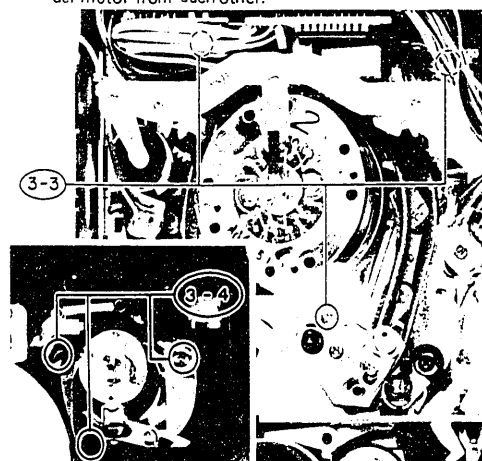

Fig. 11
3. Cylinder/cylinder motor (Fig. 11)